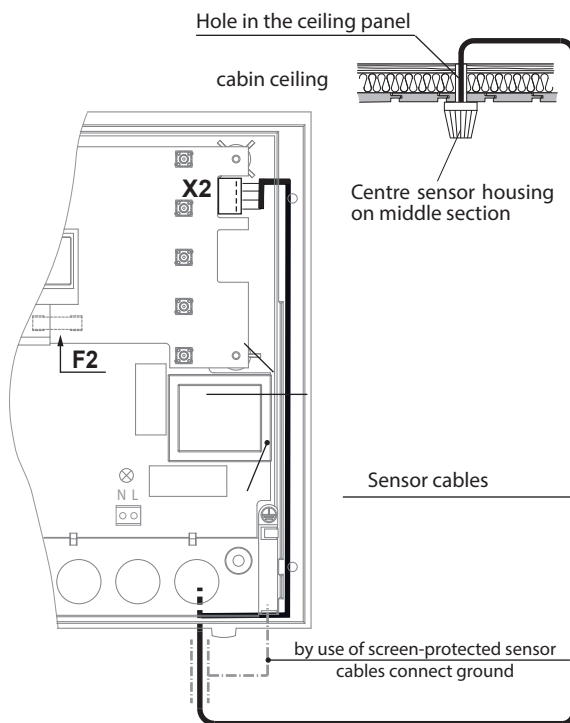

Fig. 10
5. Lead the sensor cables through the right cable intake into the control unit. Install the sensor cables inside the control unit as shown in Fig. 10. Connect the sensor cables as shown in Fig. 11. In order to do this, pull the plug X2 from the circuit board and plug it back in after the connection.